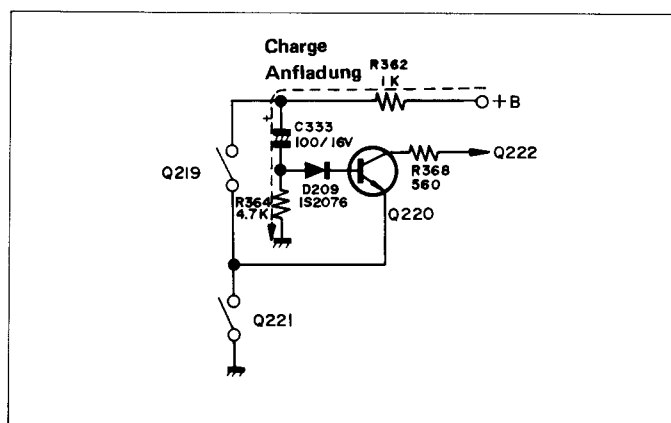

Figure 10-2 Abbildung 10-2
4. When the APSS switch is placed at "ON" the transistor Q221 of the APSS circuit turns on first, and then the operation goes on as follows. See Figures 10-2 thru 10-5.
- 1) When the unit is in the playback mode with the APSS switch kept off the Q219 and Q221 remain off — though the C333 is charged (shown in Figure 10-2), so that both the Q220 and the plunger be off.
Wiedergabe-Betriebsart befindet, bleiben Q219 und Q221 ausgeschaltet, obwohl C333 (in Abbildung 10-2 gezeigt) aufgeladen wird, sodaß Q220 und die Tauchspule ausgeschaltet werden.